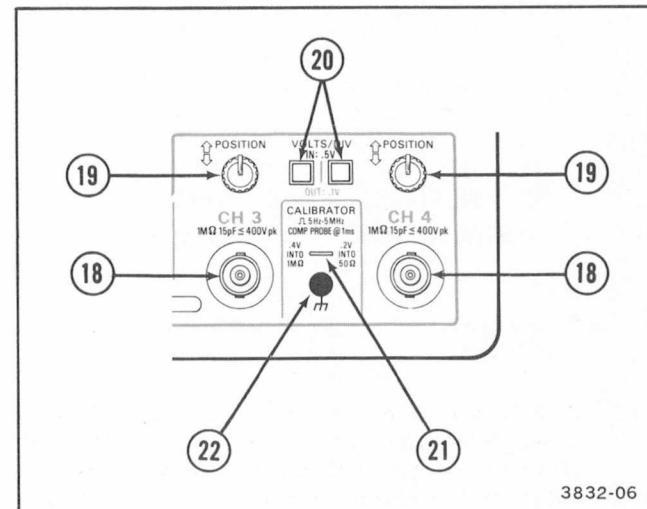

Figure 3-3. Channel 3 and Channel 4 controls and connectors and CALIBRATOR output.
- ⑯ **20 MHz BW LIMIT Switch**—Reduces upper 3 dB bandpass of the vertical deflection system to a limit of 13 to 24 MHz when latched in. Full instrument bandwidth is available when push button is out.
Refer to Figure 3-3 for location of items 18 through 22.
- ⑯ **CH 3 and CH 4 Input Connectors**—Provide for application of external signals to Channel 3 and Channel 4. Input coupling from these connectors is DC only. Coding-ring contacts, identical in operation to the CH 1 OR X and CH 2 input connectors, are also provided. Channel 3 and Channel 4 are most useful as digital signal and trigger signal input channels, given their limited choice of deflection factors.
- ⑯ **POSITION Controls**—Set vertical position of the Channel 3 and Channel 4 signal displays. The controls operate identically to the Channel 2 POSITION control, but with less range on their associated traces.
- ⑯ **Channel 3 and Channel 4 VOLTS/DIV Switches**—Select either of two basic deflection factors for Channel 3 and Channel 4. With the push button OUT, the basic deflection factor (using a 1X probe or a coaxial cable input connection) is 0.1 V per division; when it is latched IN, deflection factor is 0.5 V per division.